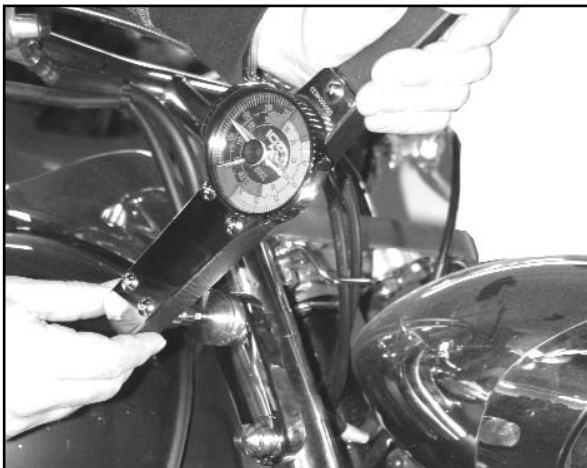

Figure 5
14. Tighten the Nuts to 50 INCH POUNDS (5.7 Nm) (4.17ft/lbs). **Figure 5. (Torque Wrench, 4mm Hex Wrench.)**